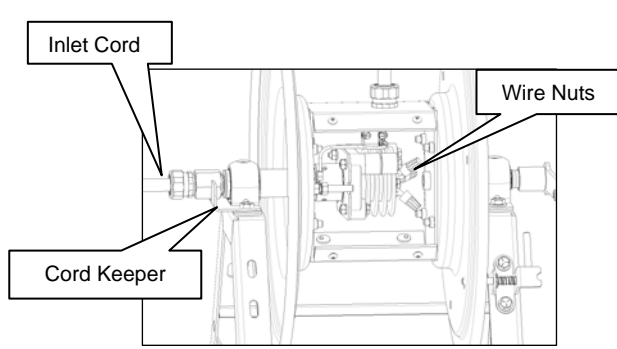

Figure 1
- 4) Connect inlet cord to slip ring wires marked 1 through 3 with appropriate sized wire nuts or other suitable connectors. Make connections as short as possible to avoid interference with rotating parts (see **Figure 1**).
- 10) The cord keeper will help prevent inlet cord rotation during reel operation (see **Figure 1**).